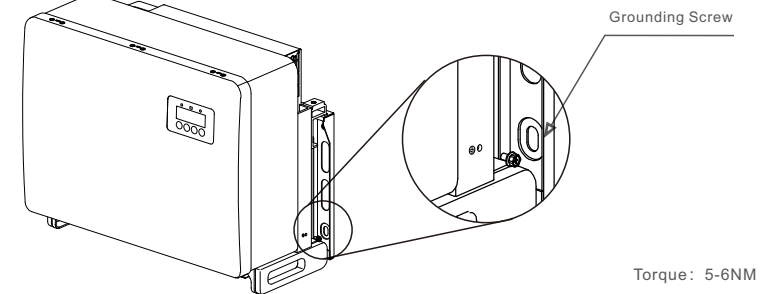

Figure 3.17 Fixed cable
- 6) Connect the grounding cable to the grounding point on the heat sink, and tighten the grounding screw, Torque is 5-6Nm(see figure 3.17).